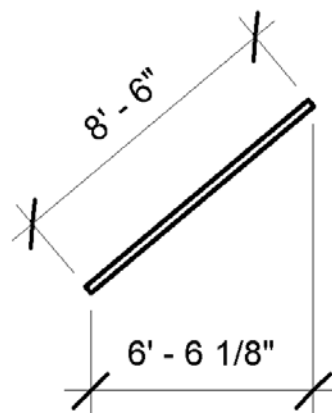
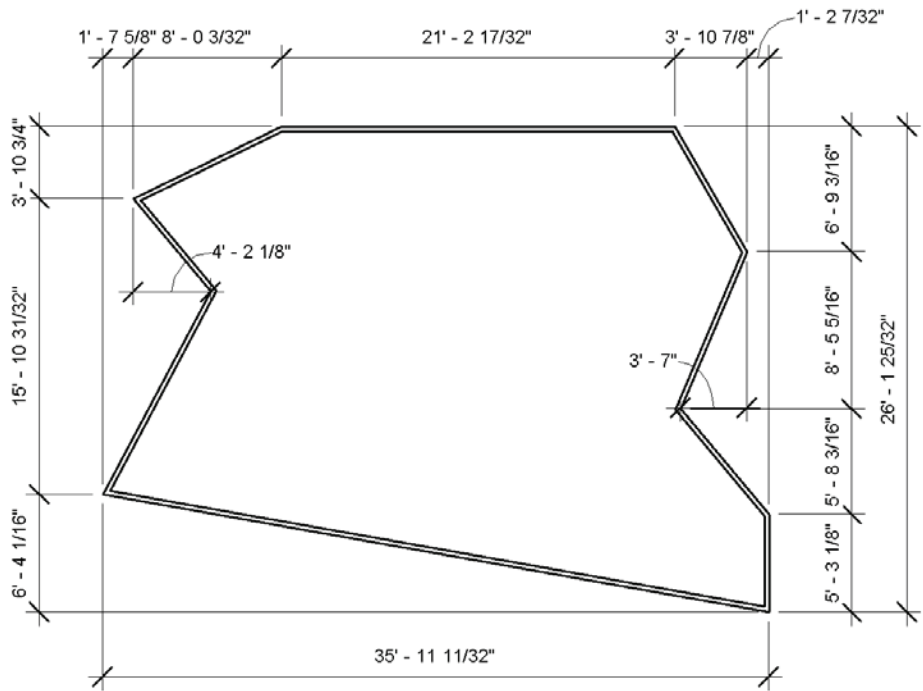

Figure 4.18
Figure 4.19
- **Aligned** dimensions are the most common dimension type used. When selected, Revit places dimensions between two or more parallel elements or two or more points such as wall ends. In the case of an angled wall, the dimension reads parallel to the direction of the angled wall (see Figure 4.18).
- **Linear** dimensions are placed between selected points and when placed they are in alignment with the horizontal or vertical axis of the view (see Figure 4.18 and Figure 4.19).